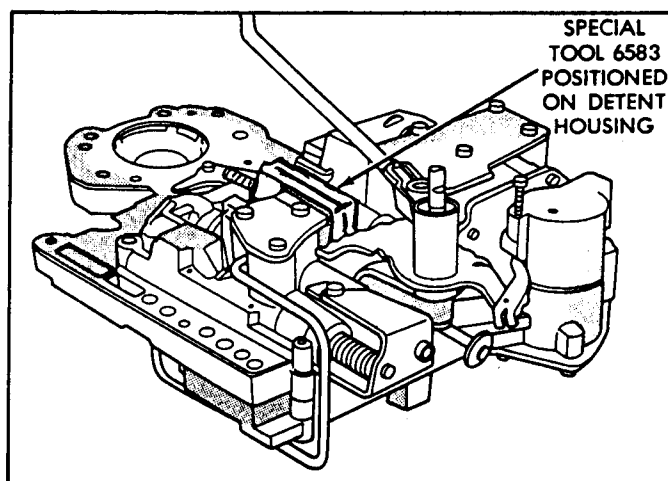

Figure 109
42. Retain detent ball and spring in the housing with Retainer Tool 6583, shown in Figure 109.